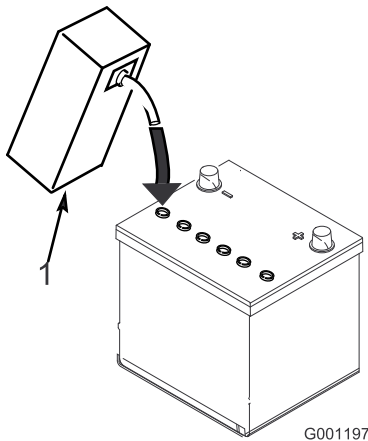

Figure 4
3. Carefully fill each cell with electrolyte until the plates are covered with about 1/4 inch (6 mm) of fluid (Figure 4).
4. Allow approximately 20 to 30 minutes for the electrolyte to soak into the plates. Refill as necessary to bring the electrolyte to within about 1/4 inch (6 mm) of the bottom of the fill well (Figure 4).